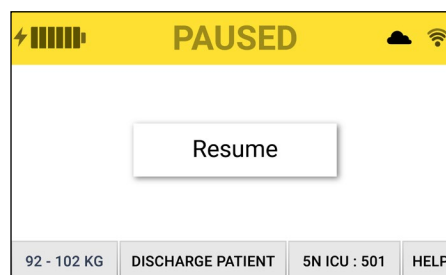

Figure 12. Paused screen: procedural area use systems
2. A Paused screen (no timer) will display with a yellow status bar. (Fig. 12)
3. Controller operation will be Paused indefinitely until the user restarts therapy. Press "Resume" to re-start therapy at any time. (Fig. 12)